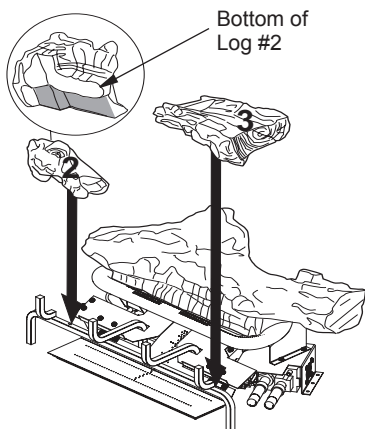

Figure 25 - Installing Logs #2 and #3
2. Place left bottom log (#2) onto base assembly as shown in Figure 25. See detail in drawing for contour on bottom of log. Log will fit over metal brackets and flat onto base assembly
3. Place right bottom log (#3) onto pan burner as shown in Figure 25.